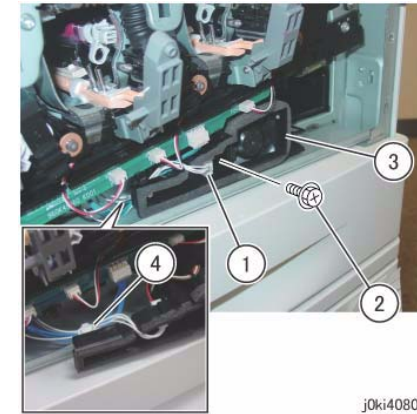

Figure 3 Remove the Process 1 Fan and Duct
- Remove the Process 1 Fan and Duct. (Figure 3)